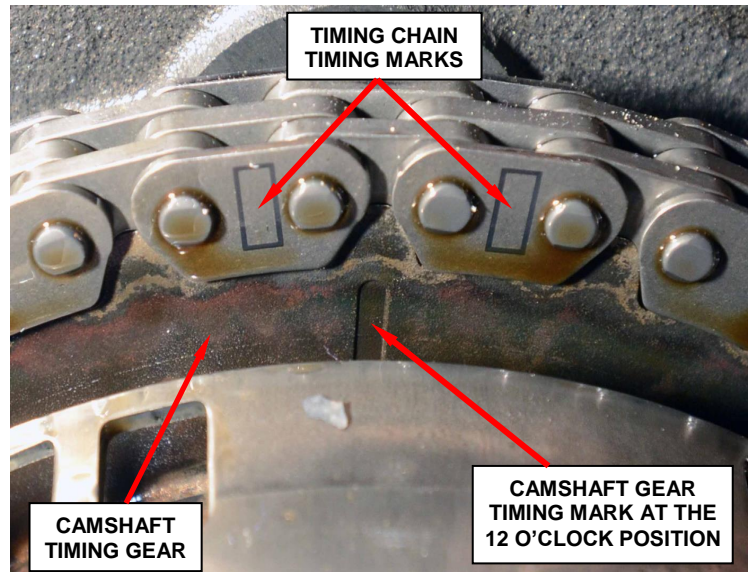

Figure 10 – Camshaft Gear Timing Marks
51. Install the new engine timing chain with the timing marks on the chain correctly oriented to the camshaft drive sprocket (Figure 10).